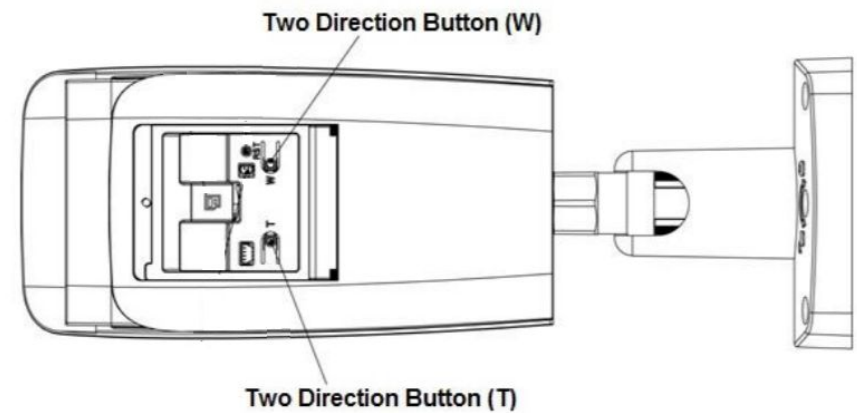

Figure 2-1
- Motorized vari-focal series devices are equipped with motorized lens by default, which does not require manual adjustment; some devices support zoom and focus via the two direction buttons on the bottom panel. See Figure 2-1.